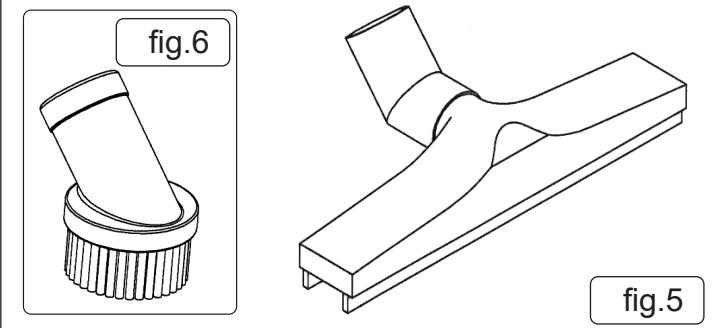

fig.5
- 5.1.2. The squeegee nozzle is used on water, cement or other non-volatile substances. Refer to Fig.5.